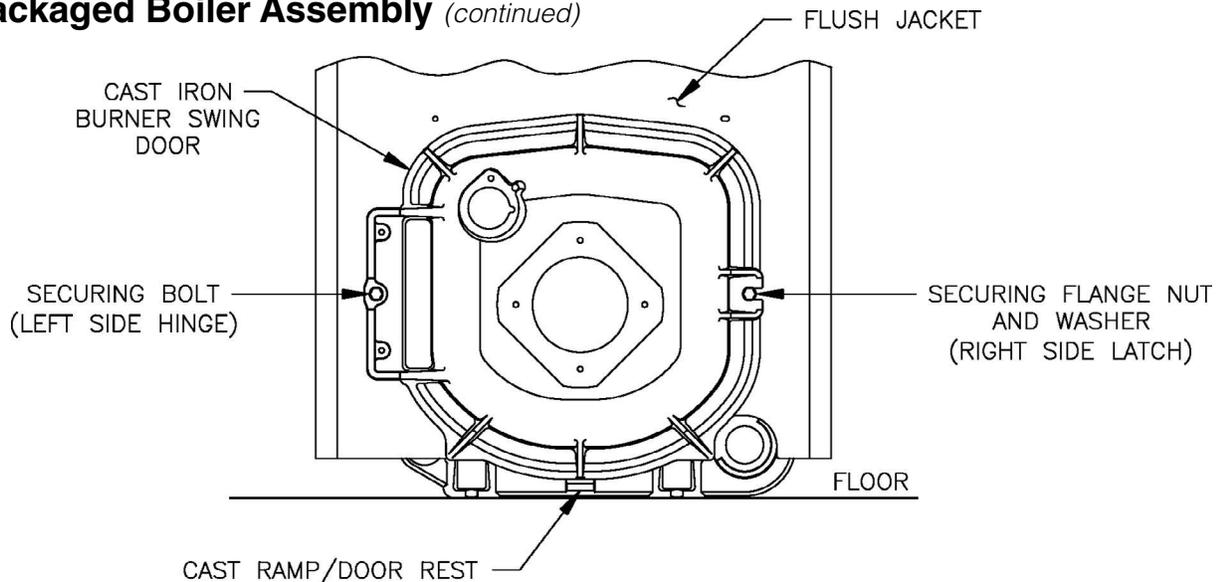

Figure 4-2: Partial Front View - Burner Swing Door Mounted to Boiler - Fully Closed and Secured
4. Use the following procedure to properly close and secure the burner swing door after it has been removed and re-installed for Field Assembly (Knockdown Boiler) or opened for inspection, cleaning or field service (refer to Figures 4-2 and 4-3):
Step 1. Lift the door up unto the built-in cast ramp/door rest (protruding from the bottom of the front section casting - see Figure 4-2), while rotating the articulated hinge and door to the right and engaging the slot (on right side of door) unto the 5/16 in. stud protruding from the front section.
1. **TO OPEN BURNER SWING DOOR** (see Figures 4-2 and 4-3).
3. To close Burner Swing Door (see Figures 4-2 and 4-3):
Step 2. Grasp the door's left side hinge flange in your left hand and place your right hand under the burner air tube to lift upward. Lift the door up unto the built-in cast ramp/door rest (protruding from the bottom of the front section casting - see Figure 4-2), while rotating the articulated hinge and door to the right and engaging the slot (on right side of door) unto the 5/16 in. stud protruding from the front section.